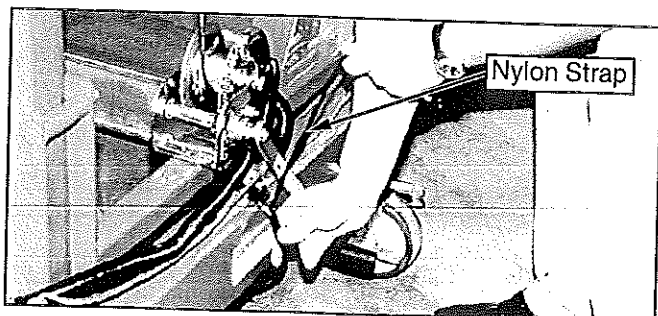

Figure 9: Releasing the Nylon Straps
**SECURE** the lifting assembly to the end column assembly using the nylon strap to prevent injury while installing or transporting (see Figure 9).